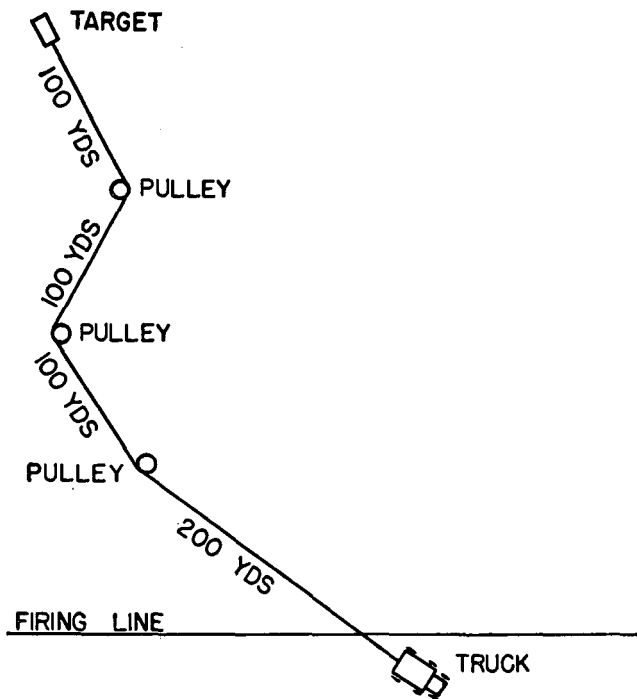

Figure 126. Setup for towed target firing.
(2) To tow this target with a vehicle, use 500 yards of half-inch rope. The pulley seen in figure 130 is a channel wheel bolted to a wooden or metal base which is firmly staked down. A knot is made in the tow rope 10 to 12 feet from the target. This will hit the wheel and throw the rope off the pulley, causing the direction of the target to change. A schematic layout for a moving target range is shown in figure 126.